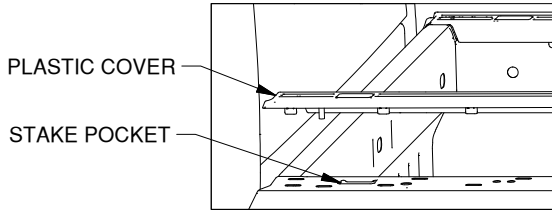

Figure B1: View looking at back of cab.
- 1. Remove plastic bed covers.** Installation of the mounting hardware for the bed protectors require access to the forward stake pockets. Remove both plastic bed covers. Each cover is secured with plastic "clips" and can be detached by pulling up on the plastic, see Figure B1. Keep each cover to replace after the mounting hardware is installed.